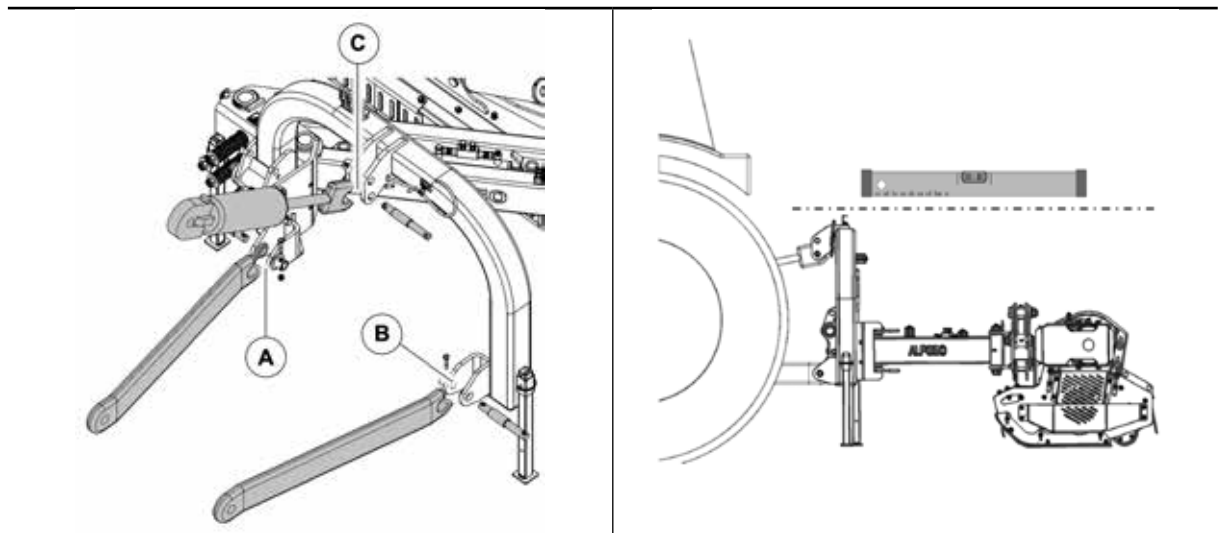

Fig. 18 Rear tractor connection procedure
1. Pull the lift bars together by placing them inside the plates (Fig. 18 and 19 det. A-B), insert the pin into the prepared hole and secure with screws and nuts.
3. Connect the upper third point (Fig. 18 det. C) and make a correct adjustment with the tie rod, making sure that the upper plane of the machine is parallel to the ground plane.